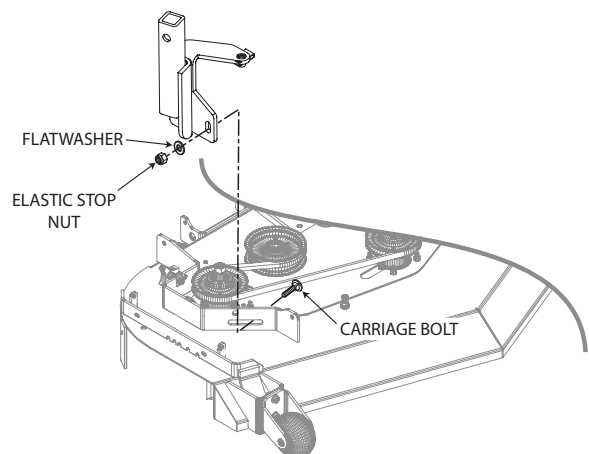

**FIGURE 3-2**
5. Remove the "Custom-Cut" and "Turbo" baffles from the cutter deck. Using the original hardware, install the new "Custom-Cut" and "Turbo" baffles. See Figure 3-2.